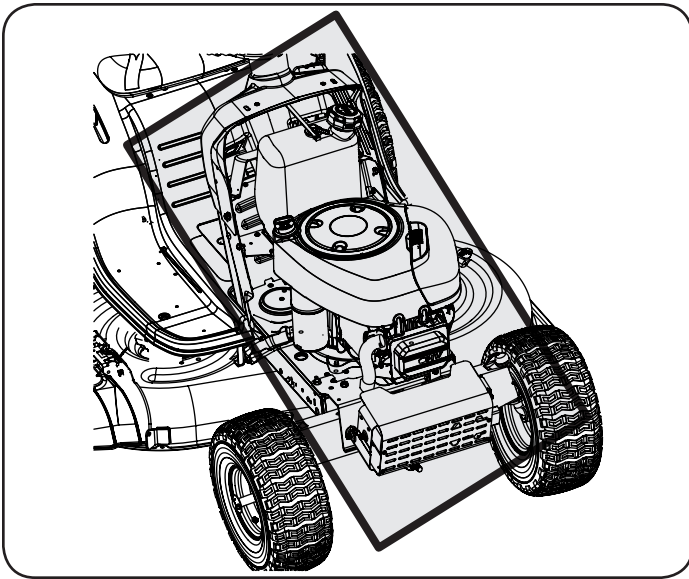

Figure 2
- Clean under the hood. Exhaust manifold, around fuses, all wiring and harnesses, muffler pipe, muffler shield, engine intake screens and cooling fins, etc. See Figure 2.